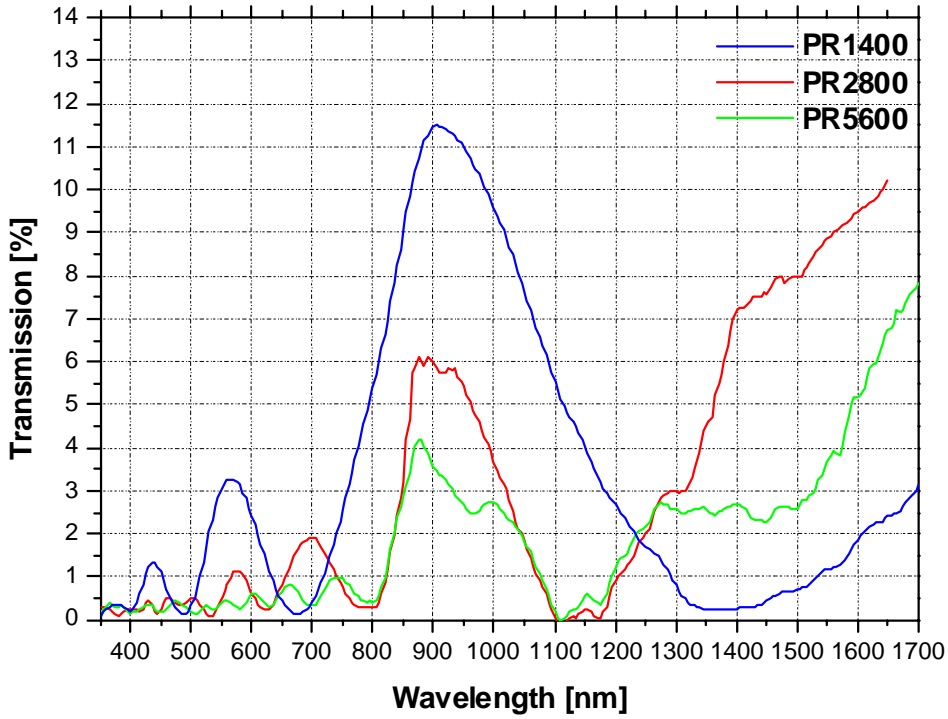

Fig 6: Measured transmission (when placed between two Glan-Thomson polarizers) for the three standard models
- 1) Use the Arcoptix digital LC Driver that has two independent outputs that are computer controlled via USB and optimized for liquid crystal device driving (see figure 6). It generates a square signal of 1.6 KHz with variable amplitude between 0V and 9V. The LC driver produces a highly stable signal with a precision of 1mV. However only two levels are relevant for driving the cell 0V and 9V (e.g. minimal and maximal value) for switching off and on the TN cell. External trigger can be obtained on demand.